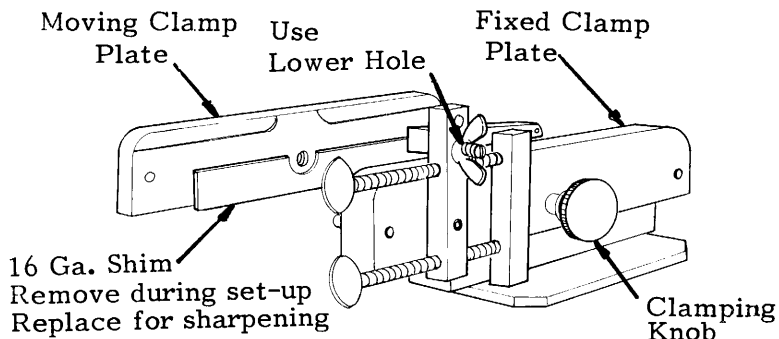

FIGURE 6
8. Turn the machine off and flip the indexing pawl down and slide the blade to the left until the pin lays in front of the tooth that was just ground. (The bolt that the pawl pivots from should be in the lower pivot hole.) (See Figure 6.) The upper pivot hole is for sharpening chain saw blades. The pawl itself should be located such that the roll pin is pointing away from the operator and extending approximately 1/8" beyond the blade. Use the wing nut to